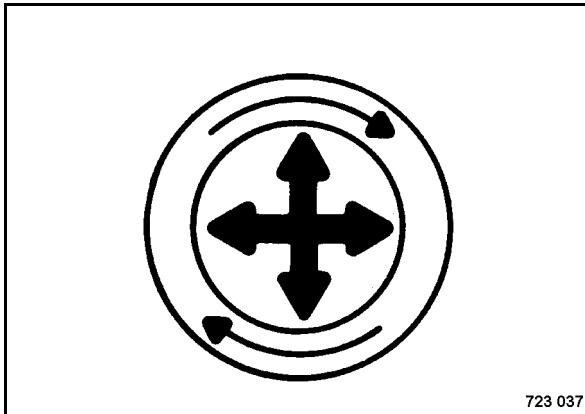

Fig. 104
- Carefully loosen the main filter element (Fig. 104).
The main filter element is located directly on the air intake tube, thereby providing a seal on the inside of the filter cover. Carefully remove the main filter element, in order to reduce the released amount of dust. To release the seal pull the main filter element carefully up, down and sideways or turn it (Fig. 104) .